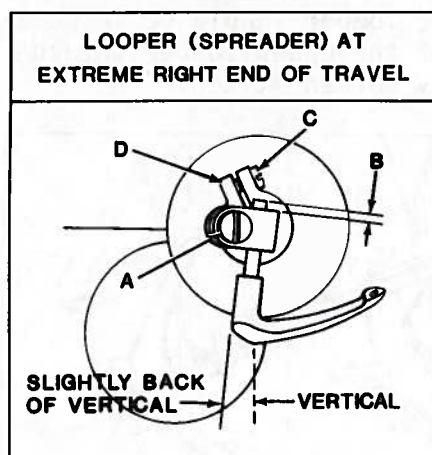
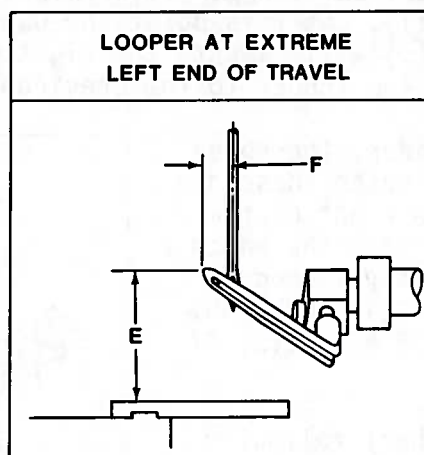
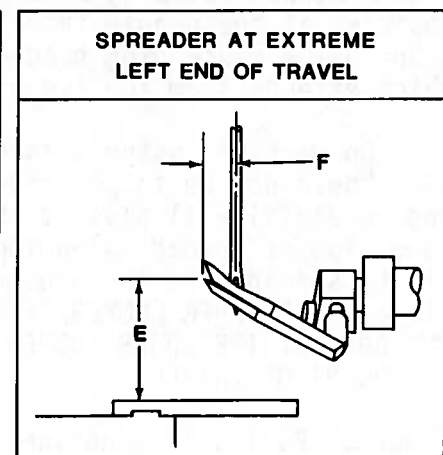

Fig. 12
Fig. 13
Fig. 14
Figures 12, 13, 14, and the chart following relate approximate dimensions for adjusting upper looper/spreader at their extreme right and left positions of travel.
1. Position upper looper/spreader at the left end of travel, loosen clamp screw (A, Fig. 12) and set upper looper/spreader shank to dimension "B" above holder, then temporarily tighten screw (A).
2. With upper looper/spreader positioned at the right end of travel, loosen screw (C) and rotate holder (D) as required to set shank slightly back of vertical on all Styles except 39500 XQJ and CXQJ, as shown in Fig. 12, then temporarily tighten screw (C). Shank of spreader on Styles 39500 XQJ and CXQJ should be set vertical.
4. Continue to rotate handwheel in operating direction until upper looper/spreader is at extreme LEFT end of travel. Rotate upper looper/spreader holder as required to position POINT of upper looper to dimension "E", Fig. 13 or LOWER POINT of upper spreader to dimension "E", Fig. 14 from top of throat plate.
5. With upper looper/spreader still positioned at left end of travel, it may be necessary to move looper/spreader holder in or out of its shaft to set POINT of looper dimension "F", Fig. 13 or LOWER POINT of spreader dimension "F", Fig. 14, which is to the left of centerline of needle (or left needle). Tighten screw (C, Fig. 12), then screw (A) securely.